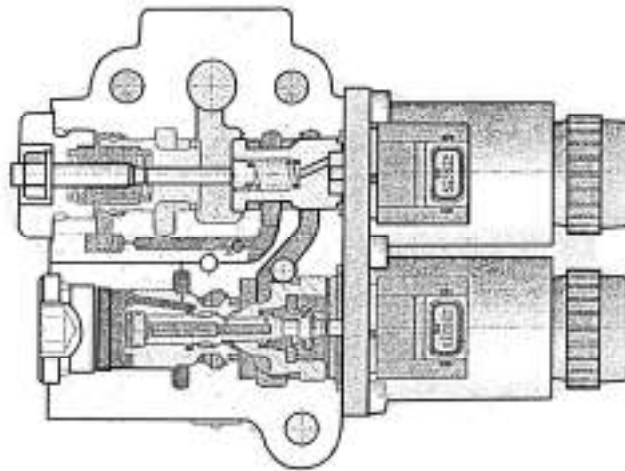
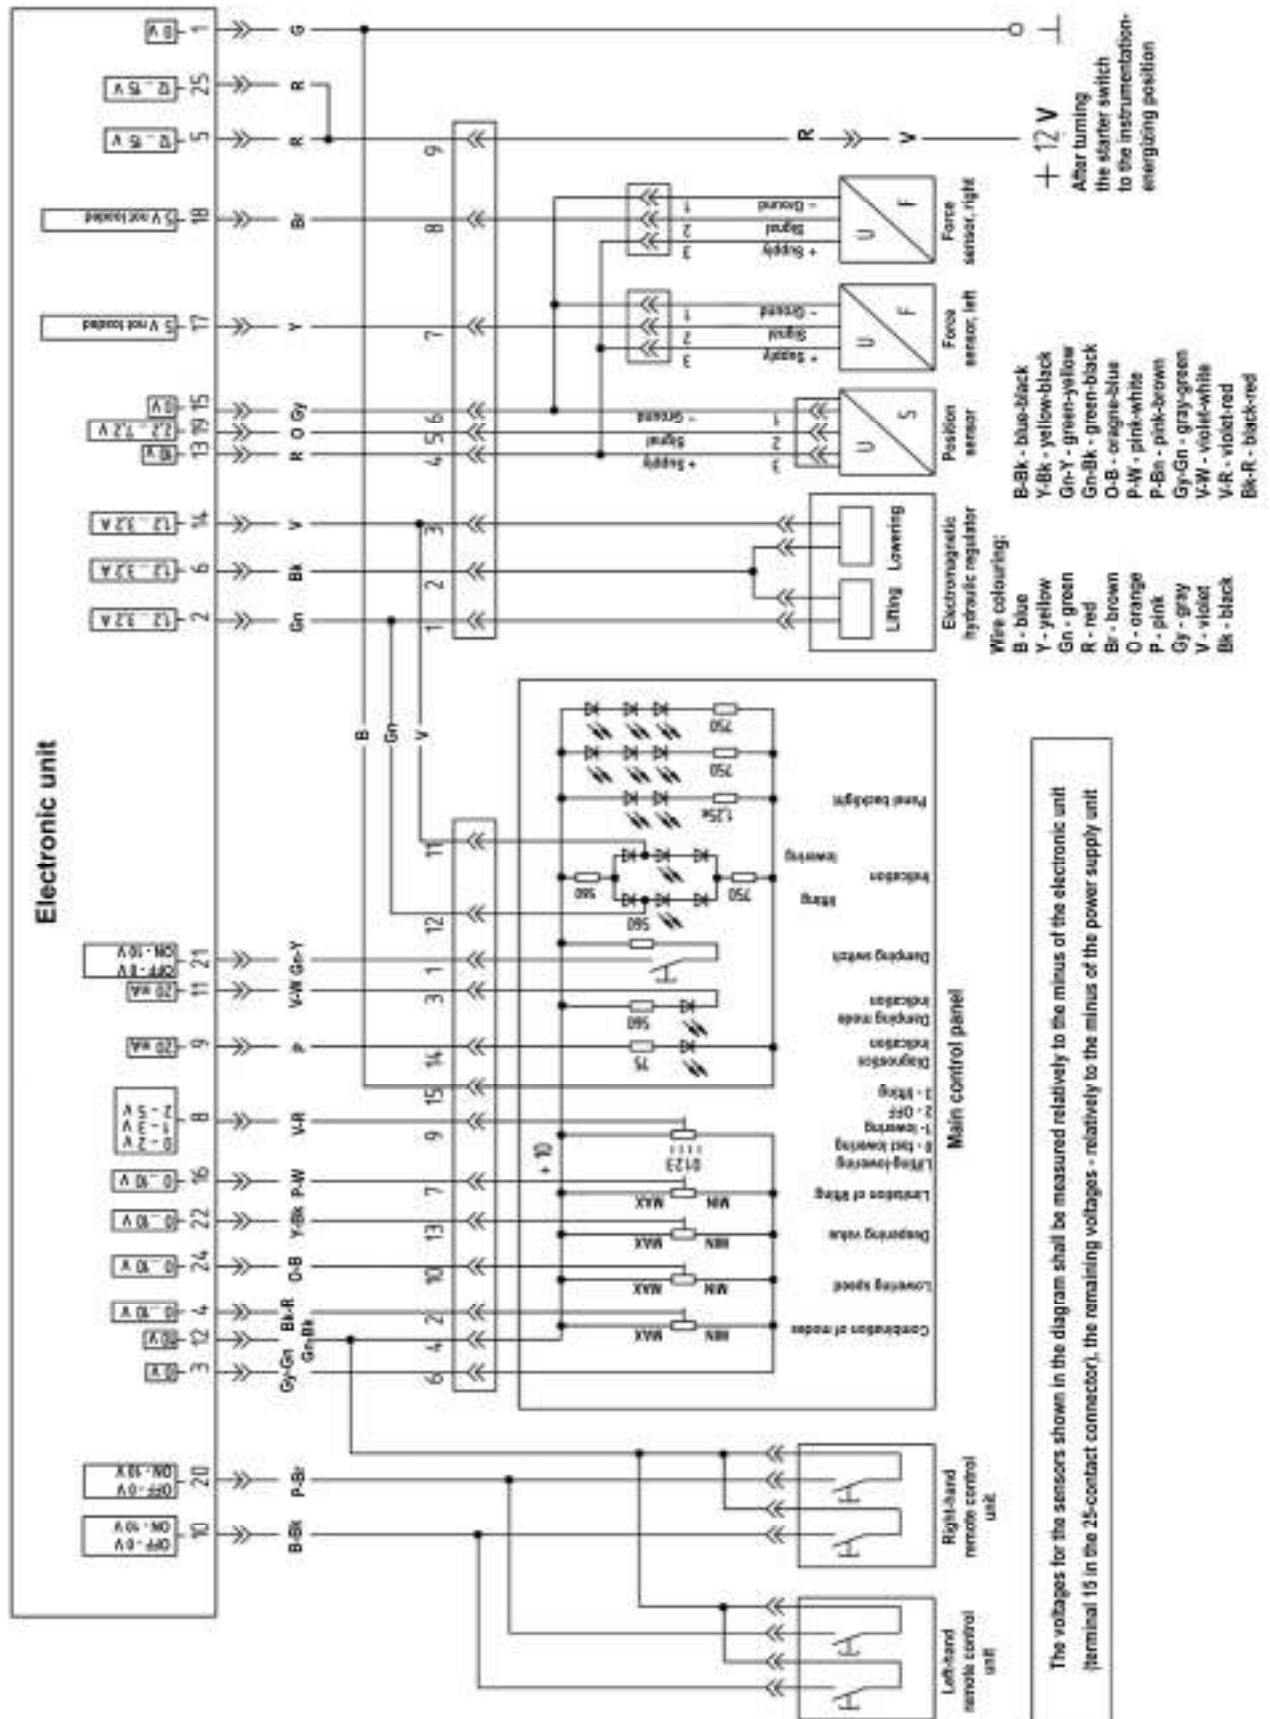

Fig. E-34. EHR5-OC electro-hydraulic regulator
Fig.E-37. Electric connection diagram of the RHL control system
The construction arrangement of the EHR5-OC electro-hydraulic regulator is shown in Fig. E-34.
The EHR5-OC electro-hydraulic regulator (Fig.E-34) is controlled by two proportional magnets with th use of the electronic RHL control system (see Fig. E-37)
The connection diagram of the RHL control system is shown in Fig. E-37.
buttons. Short circuit between the wires or locking of one of the remote control buttons. In this case, the hitch linkage begins move up- or downwards immediately after starting the engine (Fig. E-37)	for mechanical damage. Disconnect each button in turn until the defect is eliminated. When disconnecting the buttons, the engine shall be stopped. If the defect does not disappear when the buttons are disconnected, it is necessary to disconnect the connector from the electronic unit and check the terminals (10) and (12), (20) and (12) for short circuit by means of a tester.